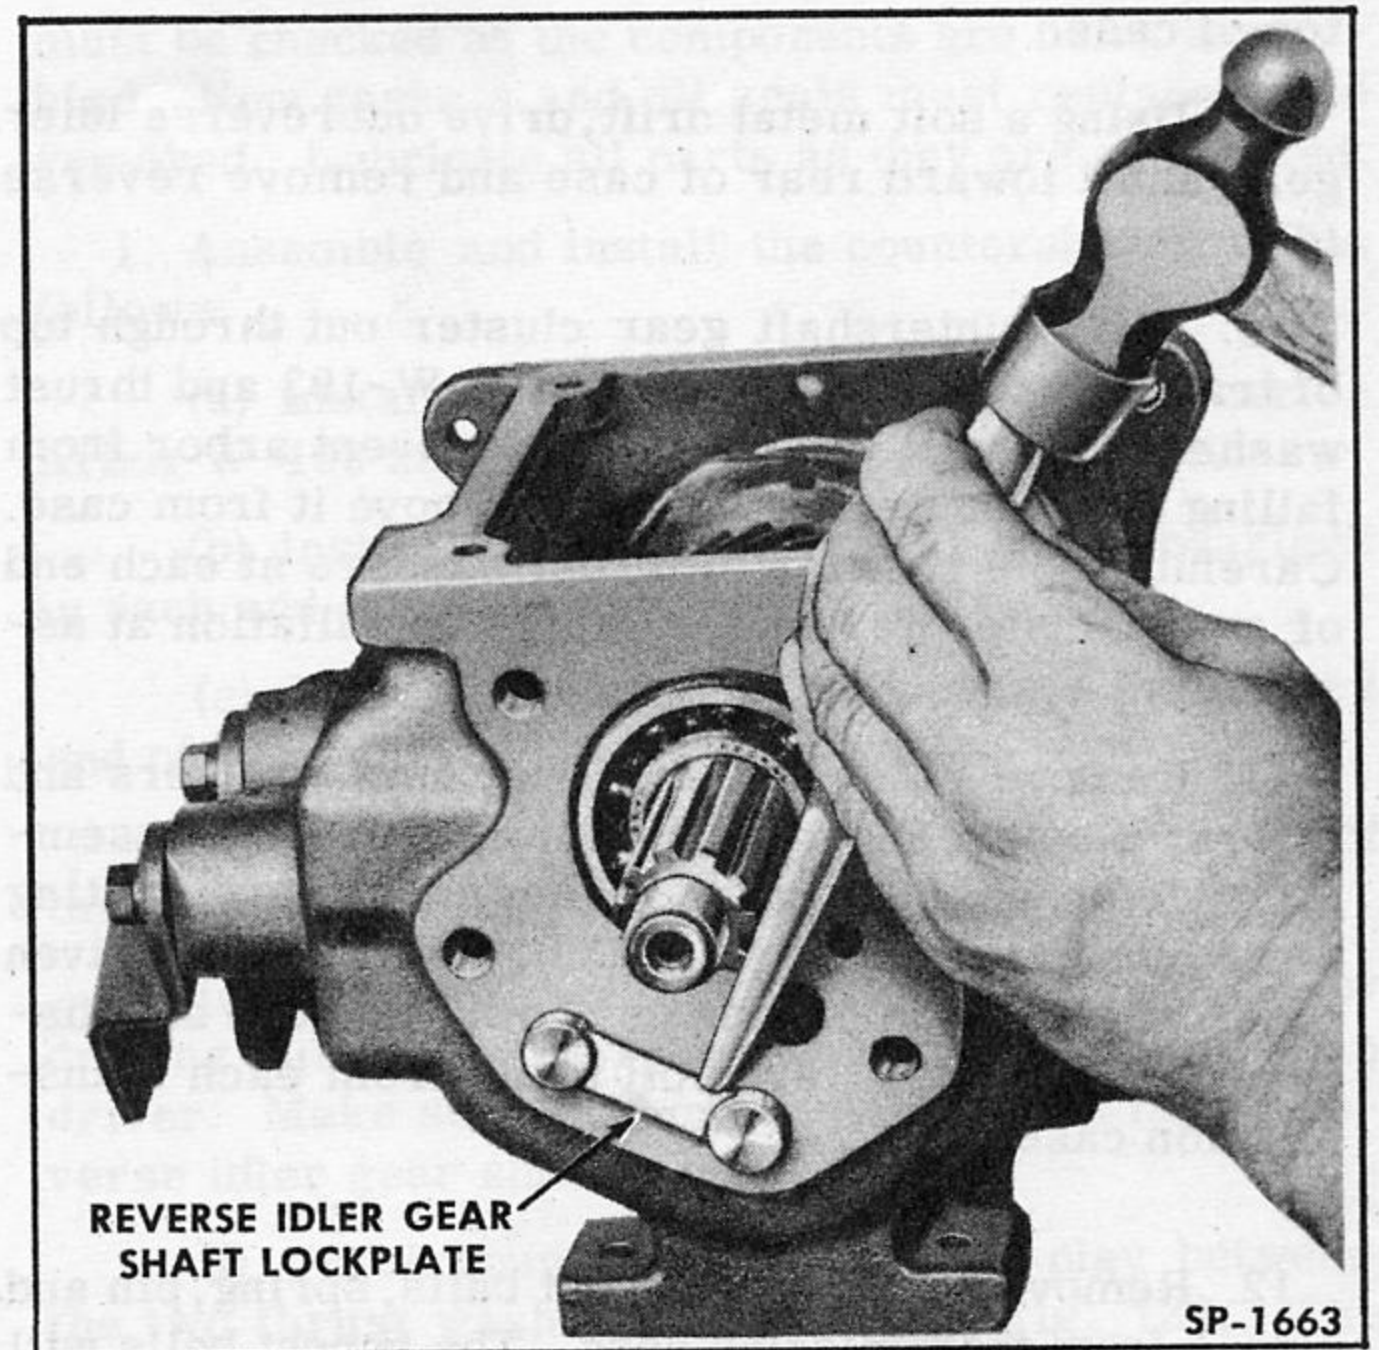

Fig. 128—Removing Reverse Idler Lockplate
5. Drive out reverse idler gear shaft lockplate using a suitable drift and hammer (Fig. 128).
3. Install the reverse idler gear by holding it in position in case with longest offset end of gear facing towards front of case. Install reverse idler gear shaft in case making sure the slot in shaft is opposite slot in countershaft. Install idler gear lock plate. Refer to Fig. 128.